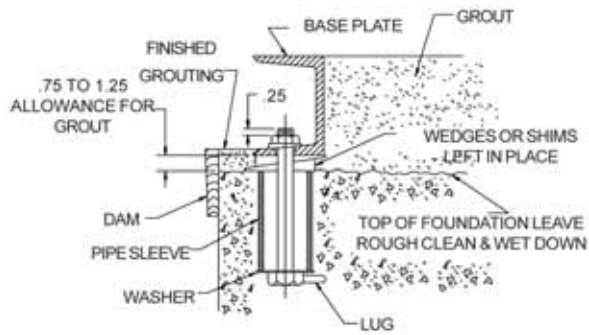

Fig. 2 Anchor bolt installation
shown in Fig. 2. Allow enough bolt length for grout, lower base plate flange, nuts and washers. Allow the foundation to cure several days before proceeding with pump installation.
- After pump alignment has been established, put nuts on foundation bolts and tighten them just enough to keep the unit base plate from moving. Construct a form or dam around the concrete pad and pour grout in and around the pump base, as shown in Fig. 2. Grout compensates for uneven foundation, distributes the weight of the unit, and prevents shifting. Use an approved, non shrinking grout (such as Embeco 636 by Master Builders, Cleveland, Ohio or equivalent). Allow at least 24 hours for this grout to set before proceeding with piping connections.
The PACO LCV Vertical Close Coupled pump need not be grouted to its foundation, but should be anchored with 4 anchor bolts set in concrete similar to the horizontal anchoring arrangement Fig. 2.